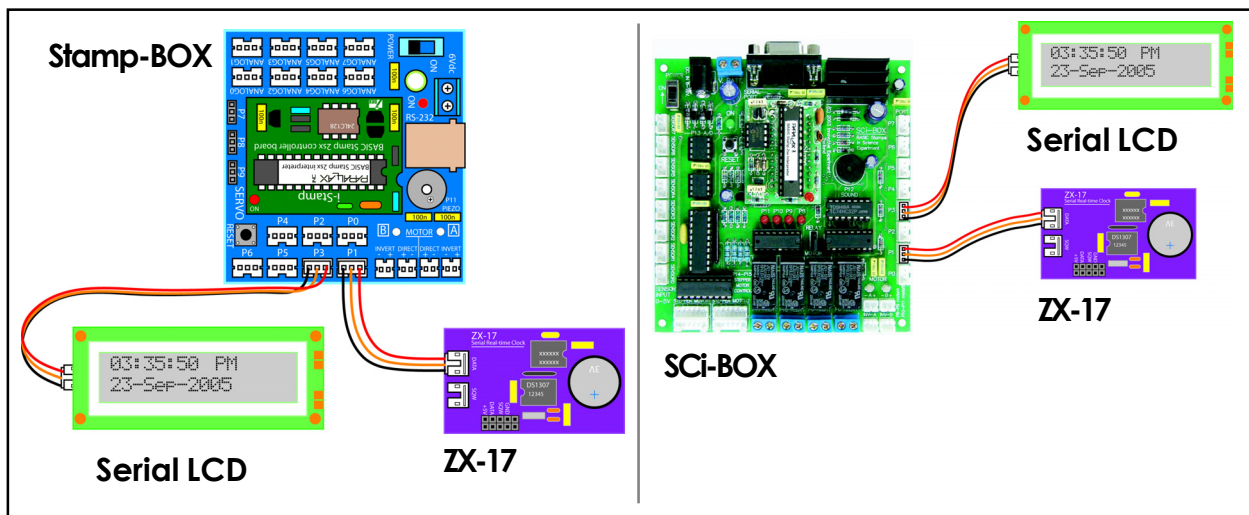

Figure 4 : Interface diagram of some BASIC Stamp2SX board, ZX-17 and Serial LCD
3.1 Connect ZX-17 and Serial LCD to Stamp-BOX or SCi-BOX following figure 4